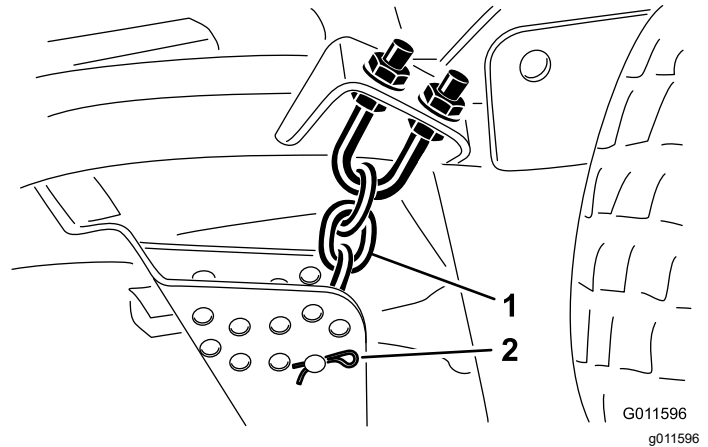

Figure 22
9. Remove the hairpin cotter and clevis pin securing the height-of-cut chains to the rear of the cutting unit (Figure 22).